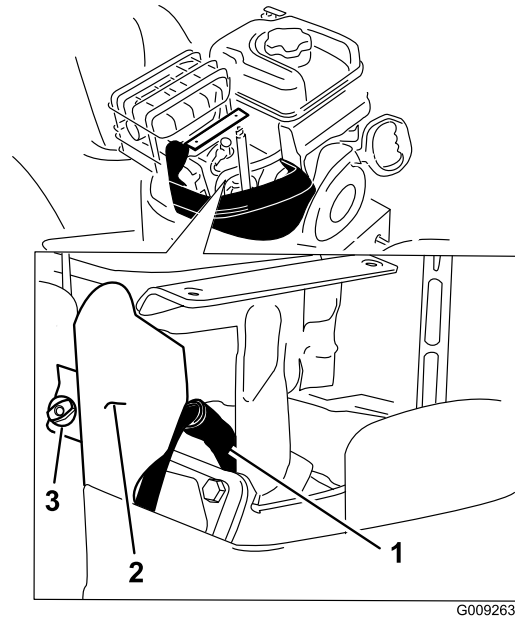

**Figure 46**
**Note:** To access the spark plug, you must first remove the upper snow hood (Figure 46).
- Remove the choke knob and the ignition key (Figure 46).
- Remove the 2 screws that secure the upper snow hood to the snowthrower (Figure 46).